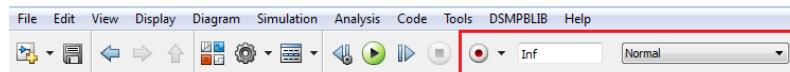

Figure 22: Change of simulation time to ‘Inf’
3. The option ‘Simulation Time’ must be set to ‘inf’. This can be done in the option ‘Solver’ of the ‘Model Configuration Parameters’ window, or in the box shown in the toolbar of Simulink, as seen in figure 22. This allows ControlDesk to simulate the model for an indefinite amount of time, instead of stopping the simulation at a specific time, as it is done normally in Simulink.